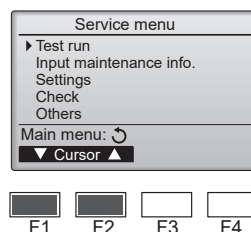

Fig. 7-1
- (1) Select "Test run" from the Service menu, and press the [SELECT] button. (Fig. 7-1)